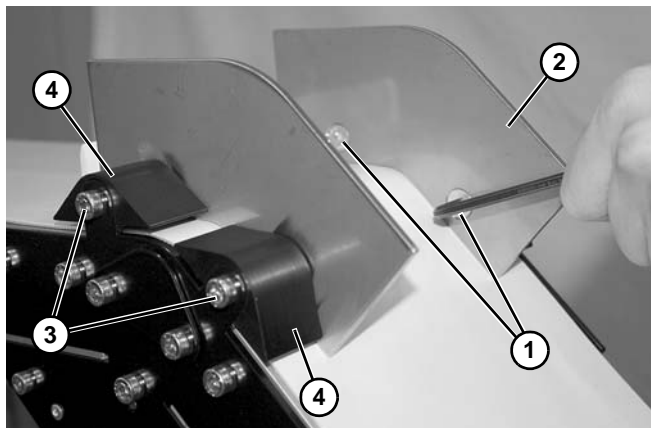

**Figure 61**
- If equipped with a lower knuckle, remove screws (**Figure 61, item 1**) and remove guards (**Figure 61, item 2**) on both sides of knuckle.
- Remove screws (**Figure 61, item 3**) and remove roller bearing assembly (**Figure 61, item 4**) on both sides of knuckle.